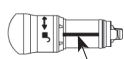

Figure 1
1. Confirm indicator bar on distal end of handpiece is aligned with unlock symbol (Figure 1) before attempting to install attachment. If not aligned properly, hold handpiece housing firmly with one hand and with other hand rotate distal end in direction of arrow to align indicator bar with unlock symbol.